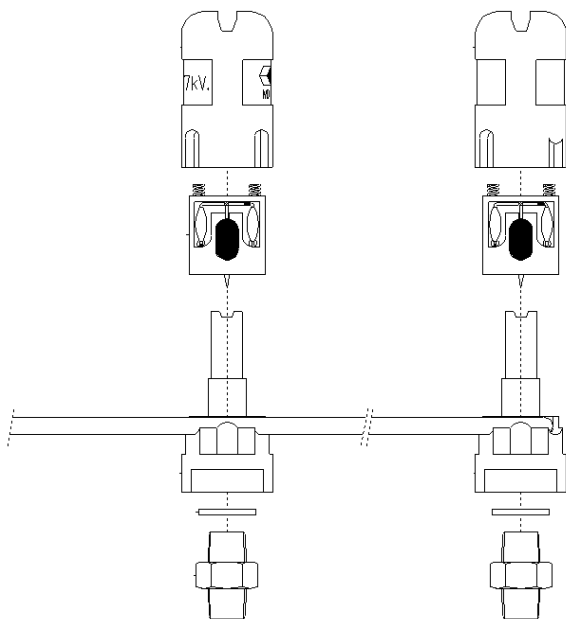

Fig. 3 Configuration of HE nozzle
10.2.1. Dismantling the HE nozzle (see fig. 3)